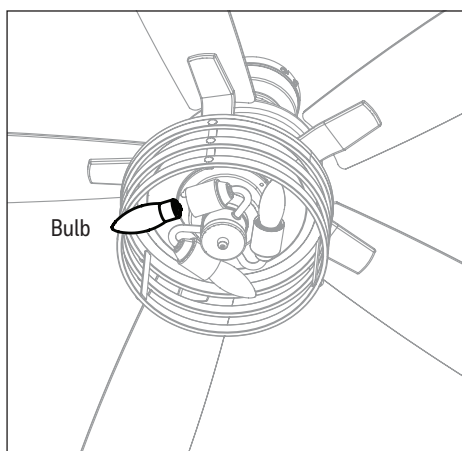

Figure 5.8
8. Install the E26-base LED bulbs into the sockets of the light kit. **Important:** Make sure you allow the bulbs and light kit to cool before you replace the bulbs (Figure 5.8).